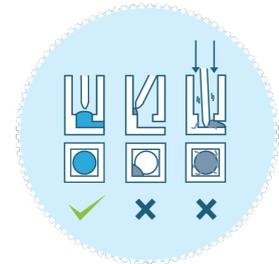

Figure 4: Gel loading
- a. Gently place your pipette tip on top of the hole in the bottom of the well and dispense the gel. Contact between the pipette tip and the hole is essential for gel loading. Correct positioning of the gel on top of hole allow capillary forces to pull the gel into the microfluidic gel channel (see figure 4).